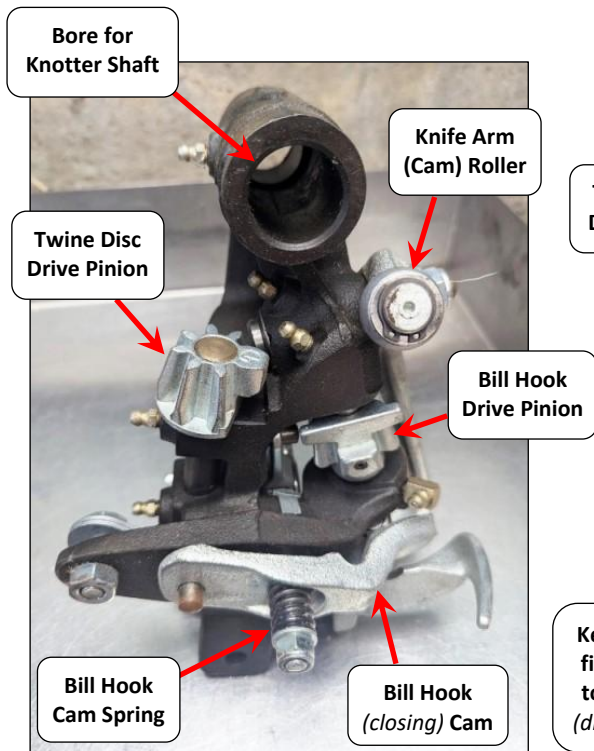

Fig.3.4 Deering-type knotter (*side view*)
- A Bill Hook with a pivoting, cam-operated 'Jaw' which grasps the twine strands during the tying cycle. A roller on the opposite end of the Jaw successively follows two cam tracks as the Bill Hook rotates. A track on the underside of the Knotter Frame causes the Jaw to open: an (*adjustable*) spring-loaded 'closing' cam (*Fig.3.4*) then causes it to close & grasp the twine. The (*spring*) adjustment permits the Jaw's clamping pressure to be varied to suit operating conditions **BUT this is a very sensitive adjustment!**
- The Twine Disc drive pinion and Bill Hook drive pinion (Fig.3.4) engage with (*and are driven by*) different (*toothed*) sections of the Cam Gear